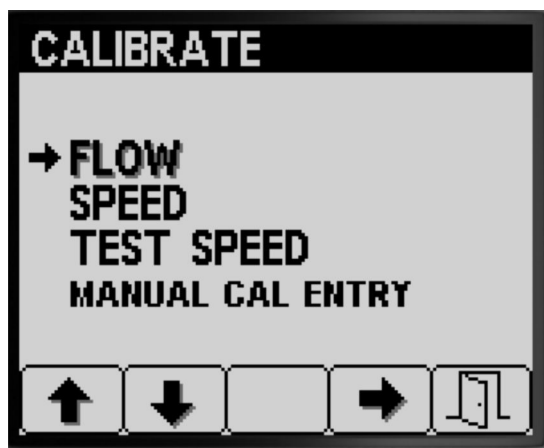

Figure 41
2. Press buttons 1 or 2 on the CALIBRATION sub-menu to navigate to the FLOW option (Figure 41).
3. Press button 4 to select Flow calibration option (Figure 41).